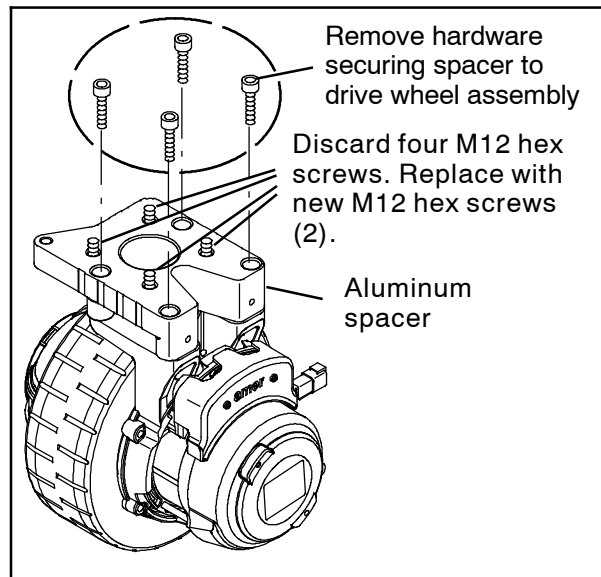

FIG. 8
4. Remove the four socket head screws securing the aluminum spacer to the drive wheel assembly. (Fig. 8)
5. Remove the aluminum spacer from the drive wheel assembly and remove the four hex screws and flat washers from the aluminum spacer. Set the aluminum spacer, flat washers, and the rest of the drive wheel assembly aside. Discard the four hex screws. (Fig. 8)
6. Install the four new M12 x 1.75 hex screws (2) and flat washers removed from the drive wheel assembly into the aluminum spacer removed from the drive wheel assembly. (Fig. 8)